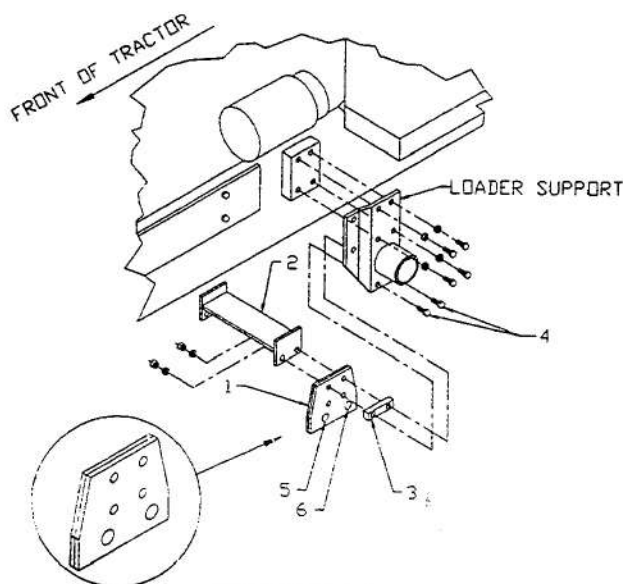

FIGURE 13
- d) Install the rear attaching plates (fig. 13, item 1) (weldment toward inside, with more material will facing rear of tractor) on the reinforcement bracket (fig. 13, item 2) placing the spacers (fig. 13, item 3) (refer to the subframe assembly plan) between the rear attaching plates and the loader supports. Use four bolts 14mm X 1.5 mm X 80 mm (fig.13, item 4) with lock-washers and nuts, into the two upper holes. Do not tighten yet.
NOTE: For L2900 and L3300, use pinhole as shown in (fig. 13, item 6) and the spacers 25 mm X 25 mm(fig. 13 item 3).
NOTE: For L3600 and L4200, use pinhole as shown in (fig. 13, item 5) and the spacers 19mm X 25 mm (fig. 13, item 3).